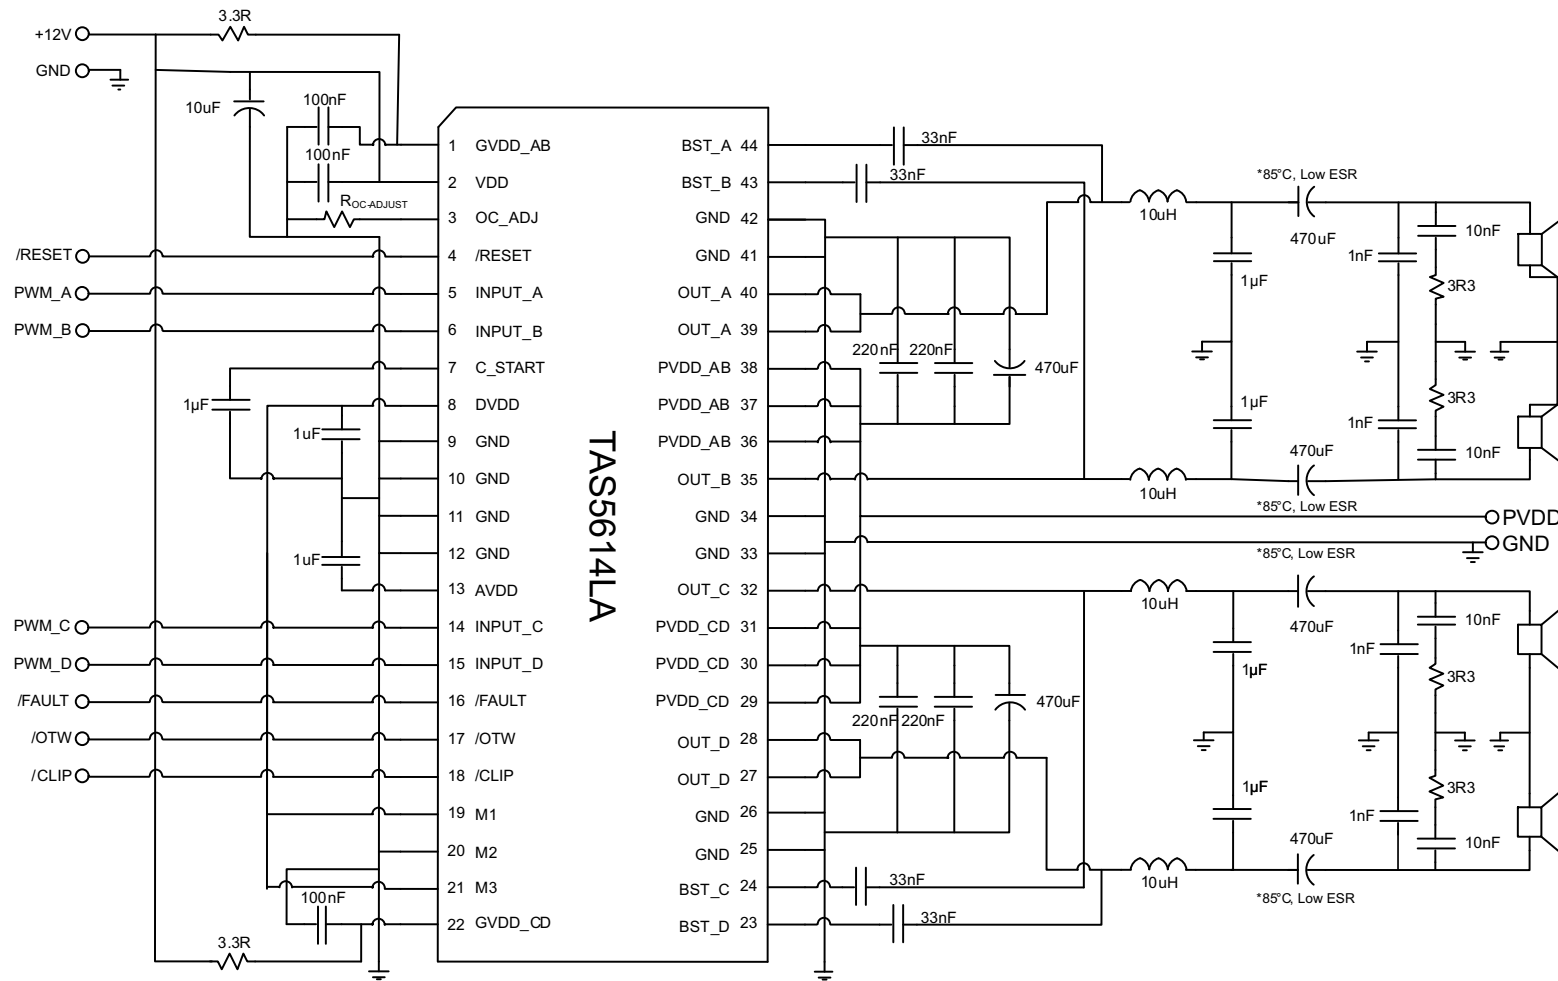

Figure 19. Typical (1N) SE Application
See Figure 19 for application schematic. In this application, four single-ended PWM inputs are used with AD modulation from the PWM modulator such as the TAS5558. AD modulation scheme is defined as PWM(+) is opposite polarity from PWM(-). The single-ended (SE) output configuration is often used to drive 4 independent channels in one TAS5614LA device.
- Pins 27, 28, 32, 35, 39, 40 - Output pins from half-bridges A, B, C, and D. Connect appropriate bootstrap capacitors and differential LC filter as shown in Figure 19.
- Pins 29, 30, 31, 36, 37, 38 - Power supply pins to half-bridges A, B, C, and D. A and B form a full-bridge and C and D form another full-bridge. A 470-uF bulk cap is recommended for each full-bridge power pins. Two 0.22-μF decoupling capacitors are placed on each full-bridge power pins. See Figure 19 for details.